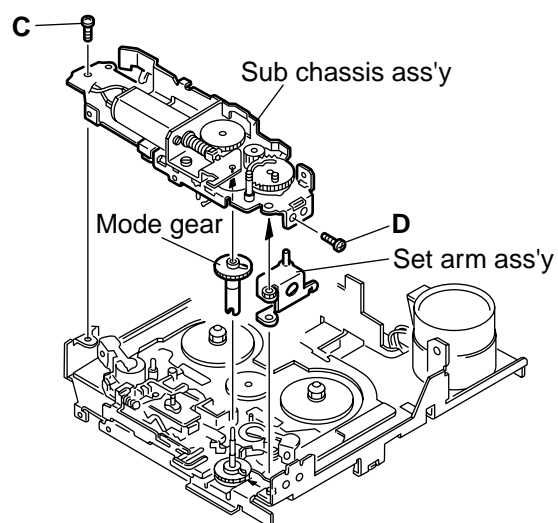

Fig.12
2. Install the sub chassis ass'y and secure it with the two screws **C** and **D** as shown in Fig.12.
NOTE : The set arm ass'y and the mode gear should be positioned as shown in Fig.12.